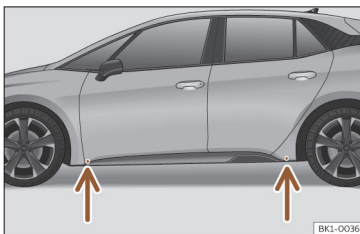

Fig. 201 Jack position points.
- Look on the strut for the mark of the jack support point (sunken area) closest to the wheel to be changed >>> Fig. 201.